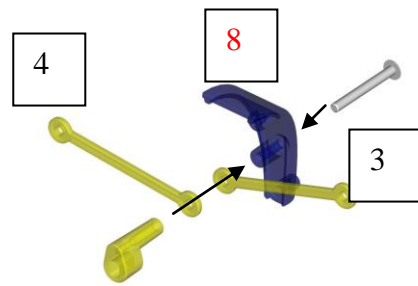

Fig. 5
4. Attach the transmission shafts (2), the long lever (4) and short lever (3) to the leg (8) using the long screw (12) as shown in Fig. 5. Use the screwdriver (17) to help you. The screw should be tightly attached to the shaft but still allows the leg and the levers to rotate freely. Note that the long lever should be in between the transmission shaft and the short lever. Repeat by using another leg.